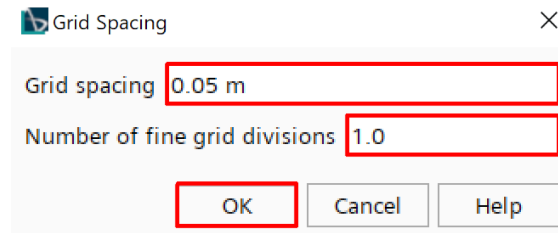

Figure 6: Grid Spacing menu.
- The *Grid Spacing* dialog box will open. Change the grid spacing to 0.05 [m] and change the number of fine grid divisions to 1.0, as shown in Figure 6. Once this is complete, click OK.